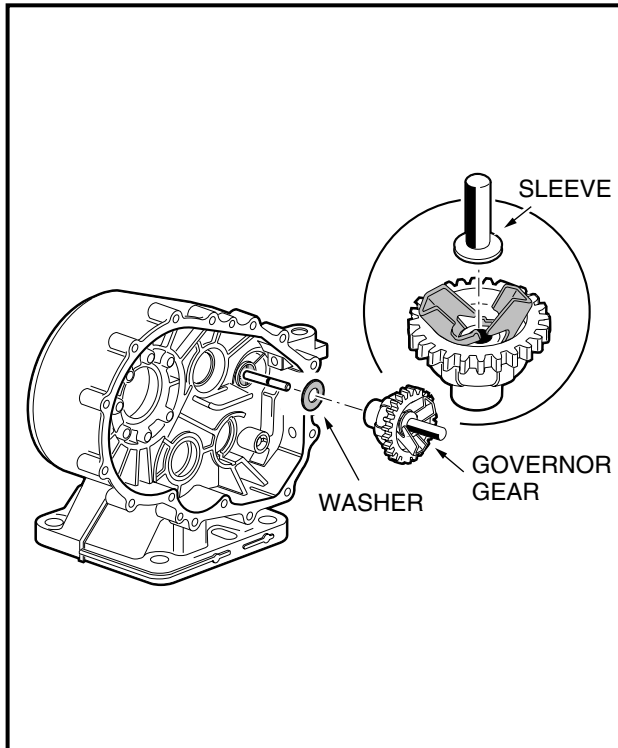
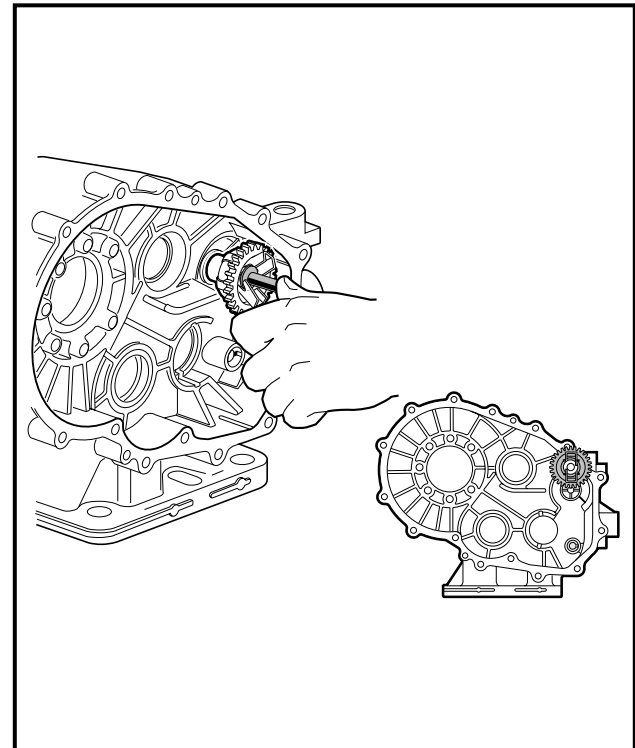

Figure 6-44 Position Governor Gear
Figure 6-45 Install Governor Gear
4. Install the washer, governor gear, and sleeve together onto the governor shaft (**Figure 6-44, Page 6-22**). Make sure the sleeve is properly positioned within the flyweight brackets of the gear (**Figure 6-45, Page 6-22**), then push them onto the shaft until the gear snaps into the groove on the shaft.